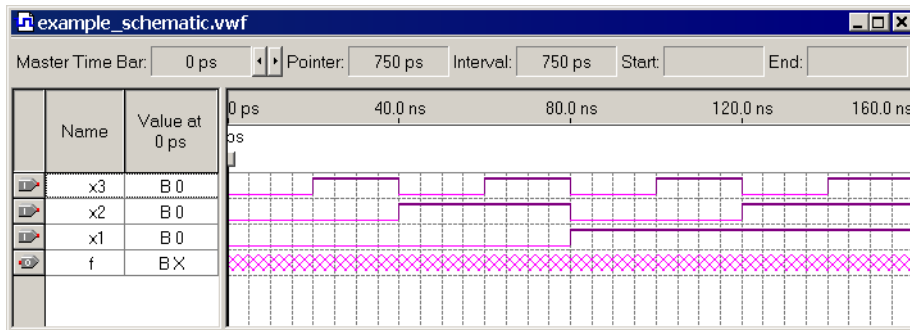

Figure B.23. The complete test vectors.
all inputs are zero. At the 20-ns point we want x_3 to go to 1. Click on x_3 ; this highlights the signal and activates the vertical toolbar that allows us to shape the selected waveform. The toolbar provides options such as setting the signal to 0, 1, unknown (X), high impedance (Z), don't care (DC), and inverting its existing value (INV). Observe that the output f is displayed as having an unknown value at this time, which is indicated by a hashed pattern. A specific time interval is selected by pressing the mouse on a waveform at the start of the interval and dragging it to its end; the selected interval is highlighted. Select the interval from 20 to 40 ns for x_3 and set the signal to 1. Similarly, set x_3 to 1 from 60 to 80 ns, 100 to 120 ns, and 140 to 160 ns. Next, set x_2 to 1 from 40 to 80 ns, and from 120 to 160 ns. Finally, set x_1 to 1 from 80 to 160 ns. Complete the remaining assignments to obtain the image in Figure B.23 and save the file.
Functional simulation of the Verilog code is done in exactly the same way as the simulation described earlier for the design created with schematic capture. Create a new Waveform Editor file and select File | Save As to save the file with the name *example_verilog.vwf*. Following the procedure given in section B.3.3, import the nodes in the project into the Waveform Editor. Draw the waveforms for inputs x_1 , x_2 , and x_3 shown in Figure B.23. It is also possible to open the previously drawn waveform file *example_schematic.vwf* and then “copy and paste” the waveforms for x_1 , x_2 , and x_3 . The procedure for copying waveforms is described in Help; it follows the standard Windows procedure for copying and pasting. We should also note that since the contents of the two files are identical, we can simply make a copy of the *example_schematic.vwf* file and save it under the name *example_verilog.vwf*.